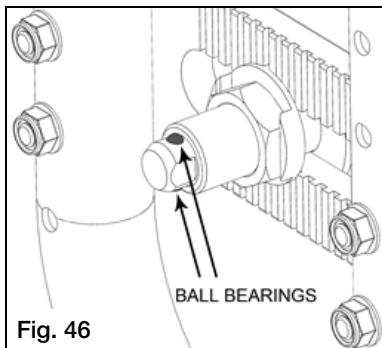

Fig. 46
- d. Release the button to lock axle in sleeve. If release button does not fully extend and the locking balls do not move into the locked position after releasing the button, the axle length needs to be adjusted (Fig. 46).